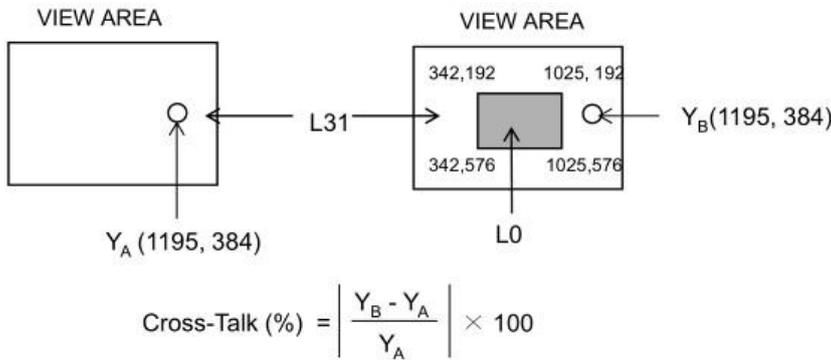

Figure 4. Response Time Testing
- The electro-optical response time measurements shall be made as FIGURE 4 by switching the "data" input signal ON and OFF. The times needed for the luminance to change from 10% to 90% is Tr, and 90% to 10% is Td.
7. Cross-Talk of one area of the LCD surface by another shall be measured by comparing the luminance(YA) of a 25mm diameter area, with all display pixels set to a gray level, to the luminance (YB) of that same area when any adjacent area is driven dark
The electro-optical response time measurements shall be made as shown in FIGURE 4 by switching the “data” input signal ON and OFF. The times needed for the luminance to change from 10% to 90% is Td and 90% to 10% is Tr.